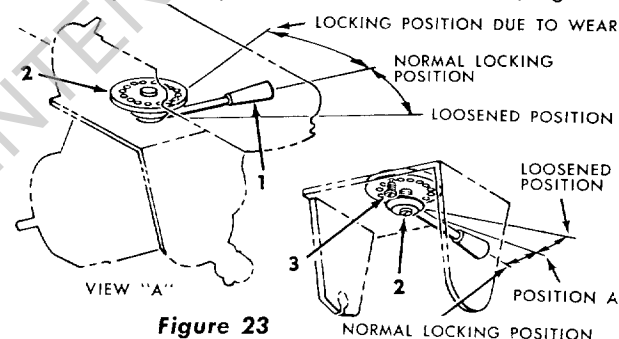

Figure 23
The normal locking position of the yoke clamp handle (Item 1, View A, figure 23) is midway between the two sides of the yoke.
2. Set yoke clamp handle to Position A, Figure 23. (Mid way.)
4. With off-set screw driver turn slotted end of the yoke clamp (Item 2) counterclockwise until a slight snugness of the yoke clamp handle is felt at Position A, Figure 23.